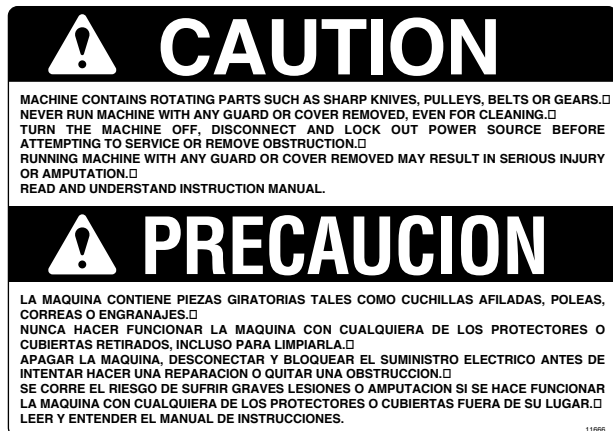

Figure 1 — Caution label
**A caution label** (Figure 1) is provided to remind you of safety rules which must be followed to avoid personal injury.